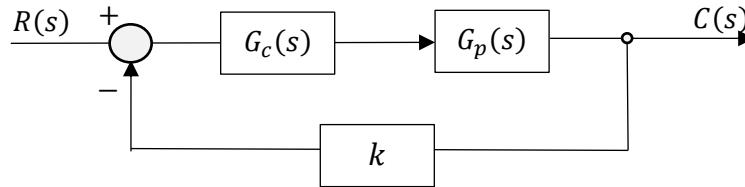

FIGURE Q3
3. FIGURE Q3 shows a system consisting of a controller with transfer function $G_c(s)$, plant with transfer function $G_p(s)$, and feedback loop with a constant proportional gain k .
For the system shown in FIGURE Q3 determine:
The system in FIGURE Q3 is then subjected to a unit step input $R(s) = \frac{1}{s}$ at $t=0$.